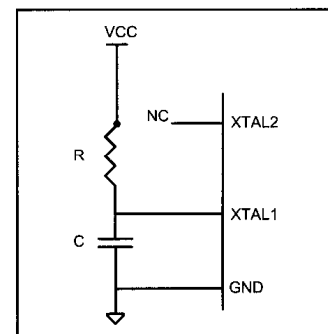

Figure 8-5 External RC
- The external RC oscillator is another source to the CPU. As you see in Figure 8-5, to use the external RC oscillator, you have to connect an external resistor and capacitors to the XTAL1 pin.